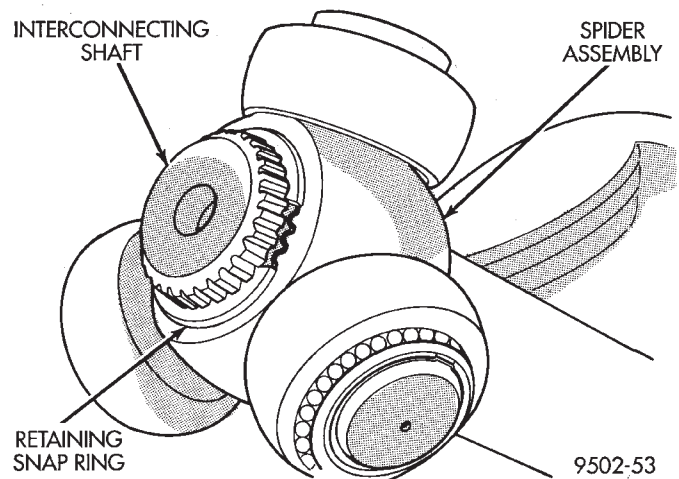

Fig. 32 Spider Assembly Retaining Snap Ring Installed
(3) Install the spider assembly to interconnecting shaft retaining snap ring into groove on end of interconnecting shaft (Fig. 32). Be sure the snap ring is fully seated into groove on interconnecting shaft.
(4) Distribute 1/2 the amount of grease provided in the seal boot service package (DO NOT USE ANY OTHER TYPE OF GREASE) into tripod housing. Put the remaining amount into the sealing boot.